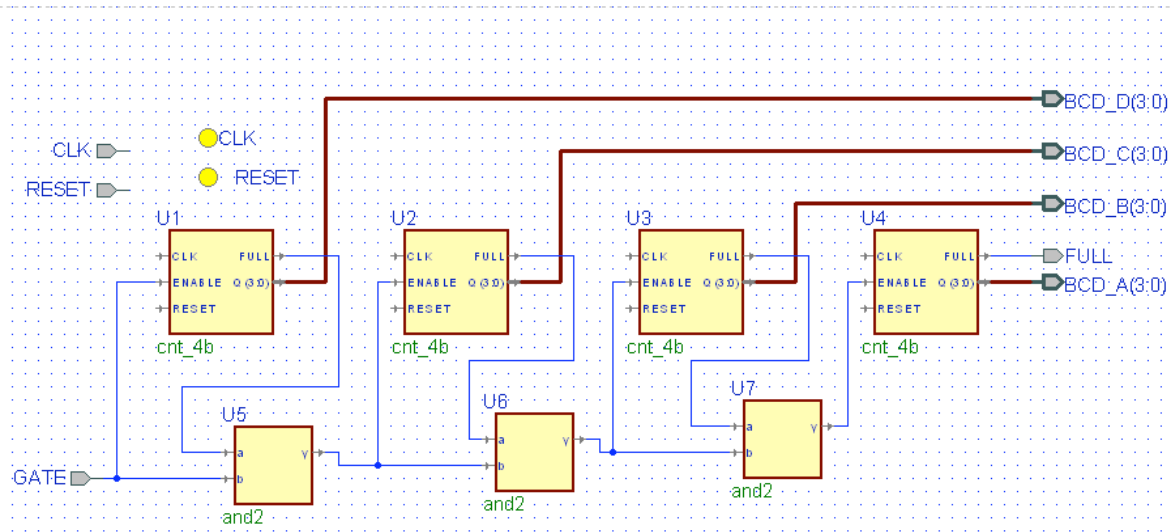

Figure 12: Block Diagram Editor Connections
12. Use shortcut [**w**] for wire and [**b**] for bus to connect different ports to respective location. **[See Figure 12]**